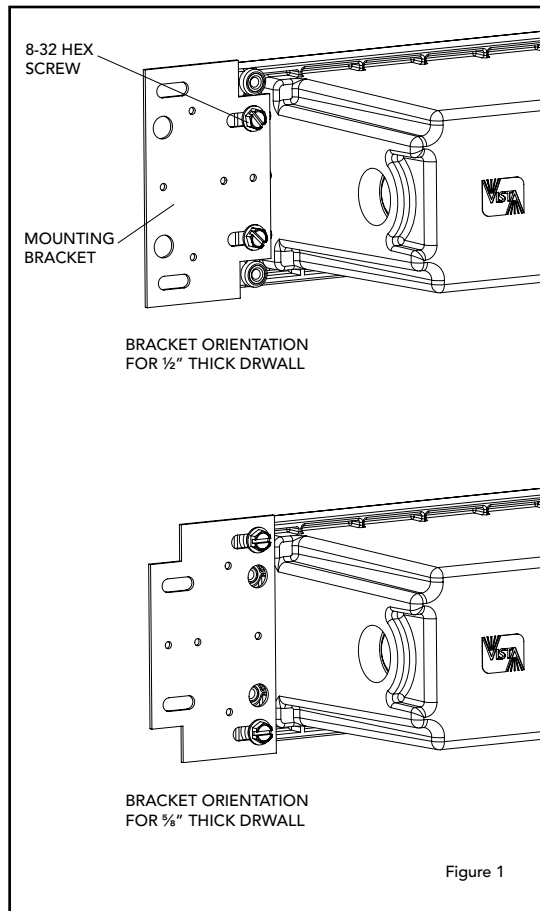

Figure 1
1. Determine housing mounting bracket orientation, i.e. 1/2" thick drywall or 5/8" thick drywall (fig. 1).
2. Install the (2) RiB housing mounting brackets provided using the (4) 8-32 Hex screws provided (fig. 1).